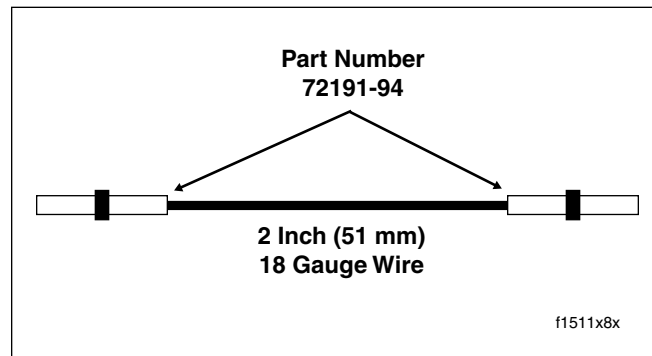

Figure 1. Jumper Wire
2. Remove protective plug from the data link connector and connect one end of the jumper wire to terminal 1. See Figure 1.